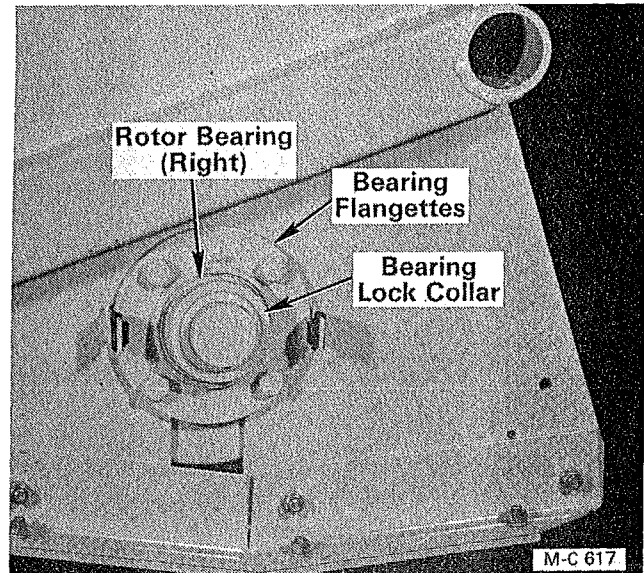

Figure 31
- Remove the tree guard and stub shaft guard, see Figure 31.